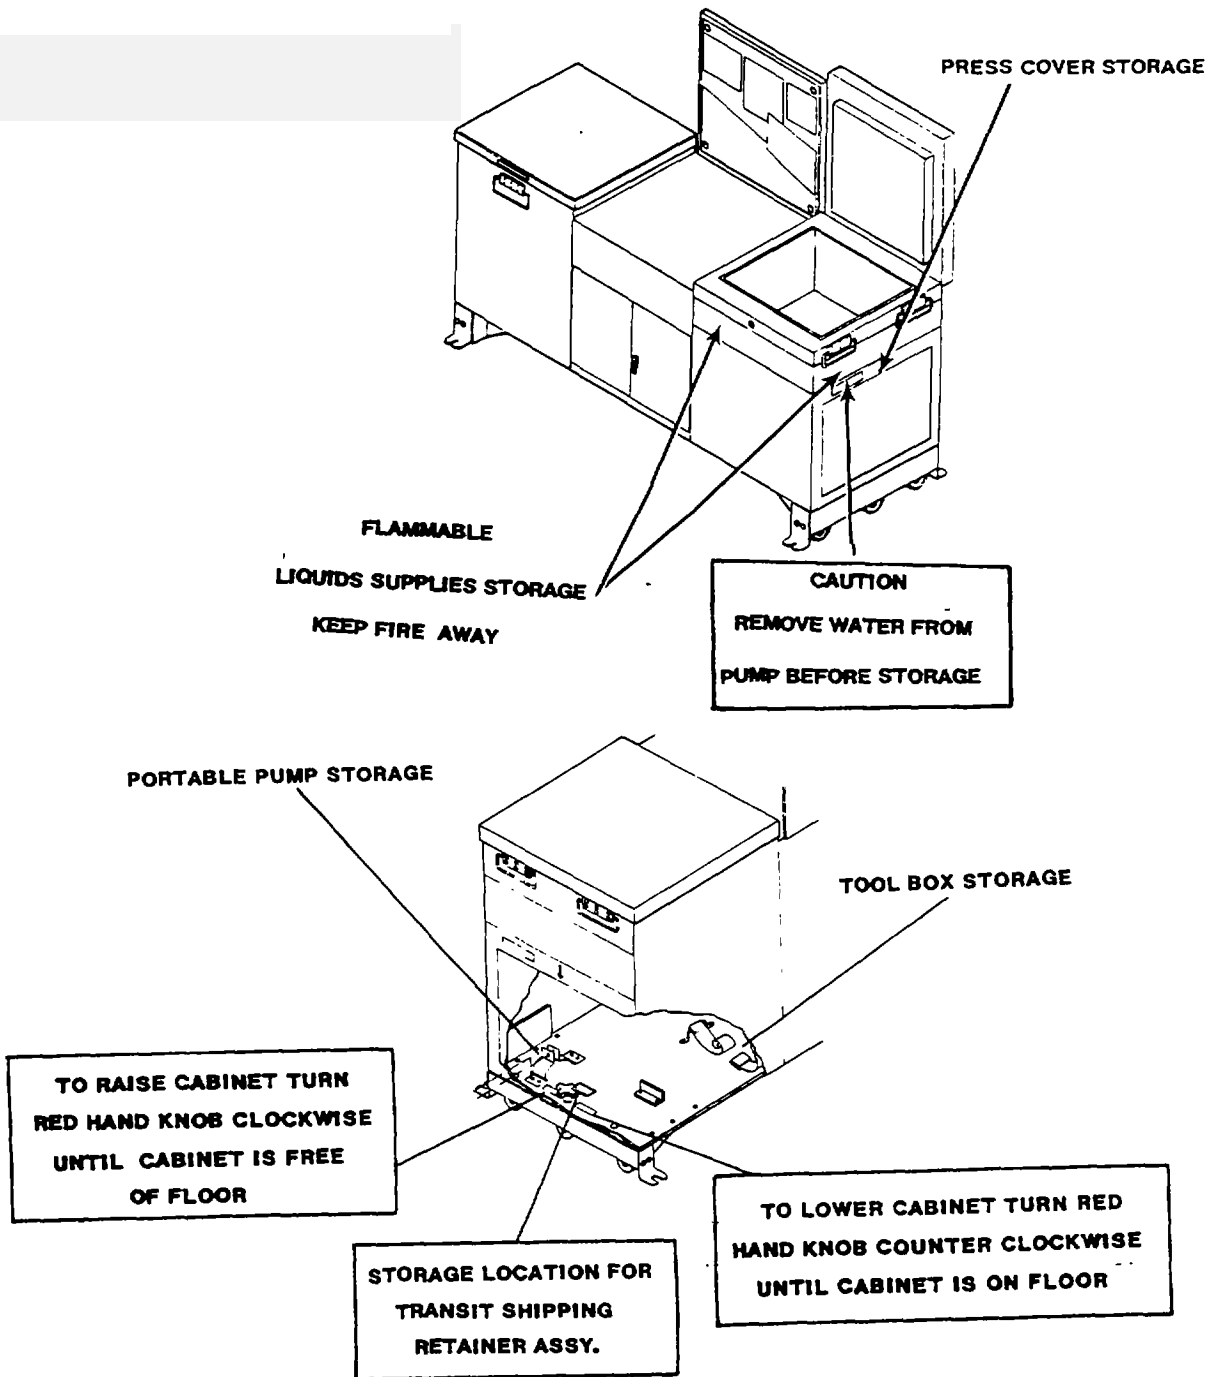

Figure 2-22. Ink Cart and Tool Caddy Assembly Decal Locations
c. Ink Cart and Tool Caddy Assembly. Figure 2-22 below identifies decals on the Ink Cart and Tool Caddy Assembly.